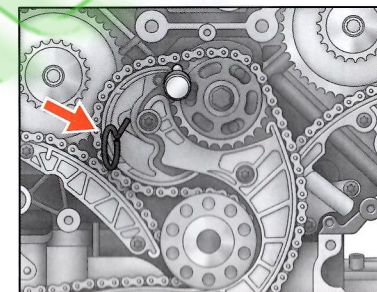

Fig.46
- (2) Select the appropriate Tensioner Retaining Pin. Press the chain tensioner rail, compressing the tensioner plunger and retain in place using Tensioner Retaining Pin (Part No.I or J). (Fig.46)